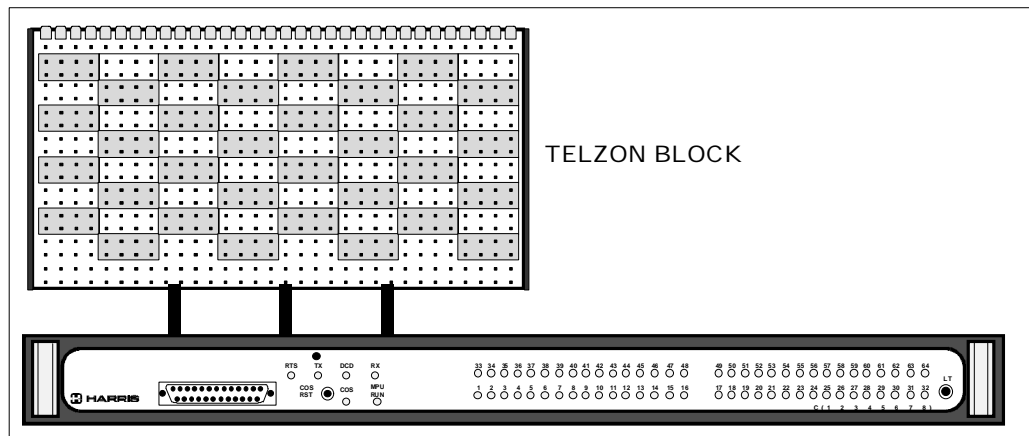

Figure 1-6. Telzon Interface Assembly
The Telzon termination panel (Figure 1-6) is a standard "Type 89 Block". It provides front panel wire-wrap access to all discrete and serial connections. Up to two (2) blocks can be mounted on the same mounting bar. Interconnecting cables are provided to accommodate all wire wrap interfaces. Refer to Section 2 of this guide for more detailed information on the Telzon assemblies.